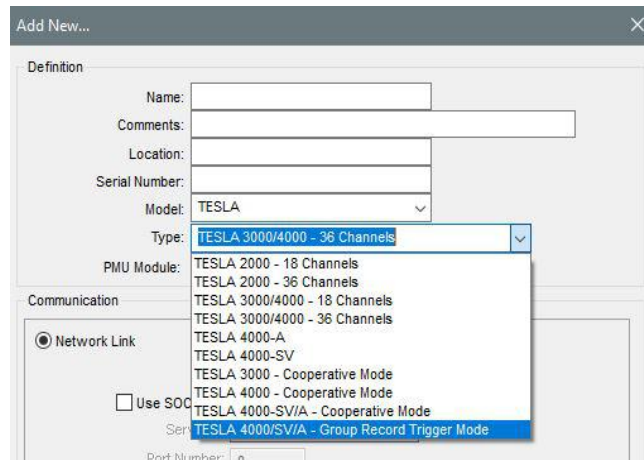

Figure 15.8: Add New Group Record Trigger Mode in TESLA Control Panel
1. Add a new group IED entry by selecting **TESLA4000/SV/A Group Record Trigger Mode** under the Type pick-list (Figure 15.8).